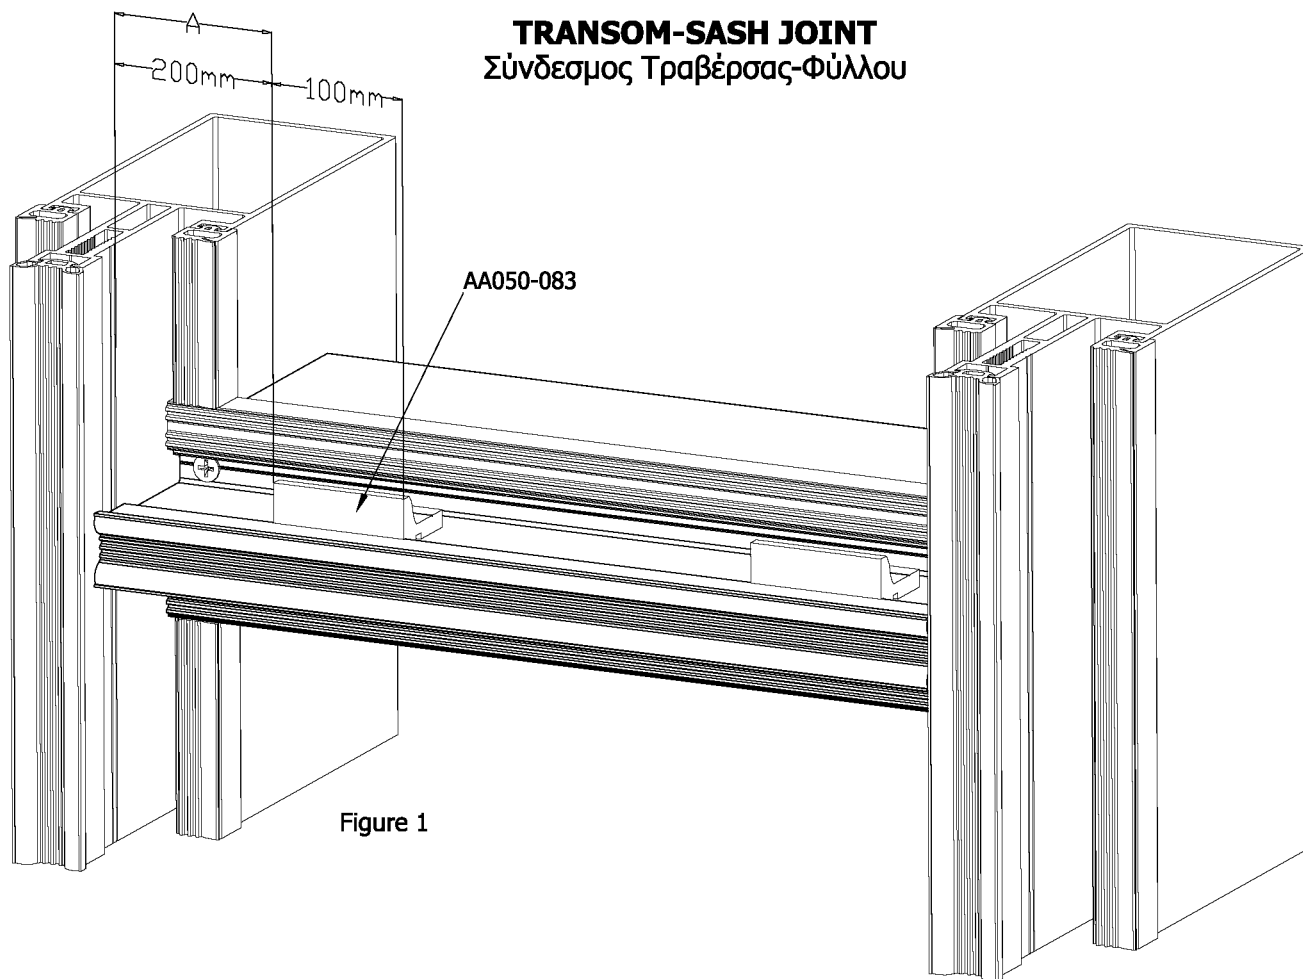

Figure 1
*In order to install the transom-sash joint to the sash, we measure the distance A that we have installed mullion-sash joint to the mullion (figure 1) and to the dimension B (figure 2) we subtract 15.5mm